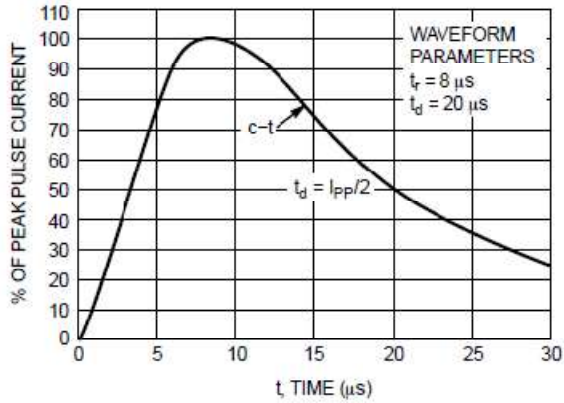

Figure 1. Pulse Waveform,  $8 \times 20 \mu s$
1. Non-repetitive current pulse per Figure 1.
4. Pulse waveform per Figure 1.